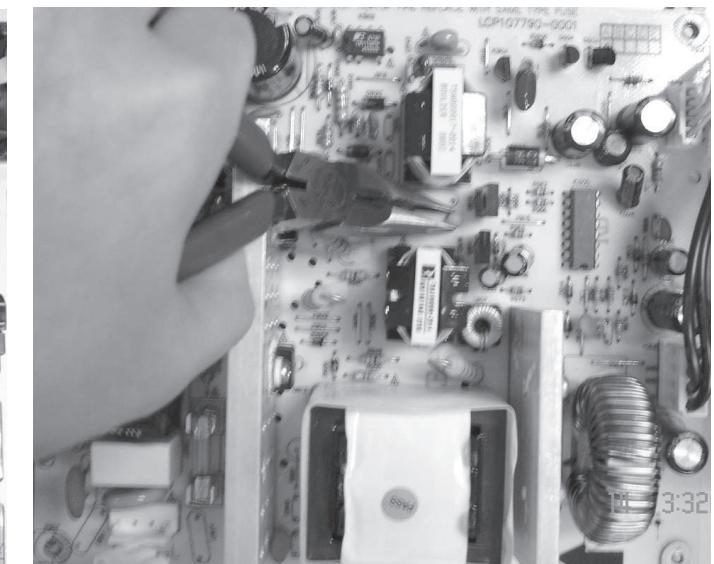

Figure 3
2) With a pincers to nip this space as shown in figure 3 and to take up the power board.